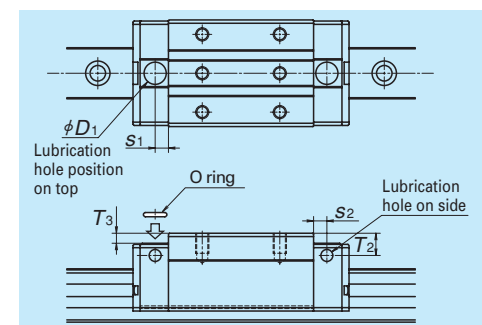

Fig. 12 Top and side lubrication hole positions
- A lubrication hole can also be provided on the top of the end cap. **Fig. 12** and **Table 7** show the mounting position.